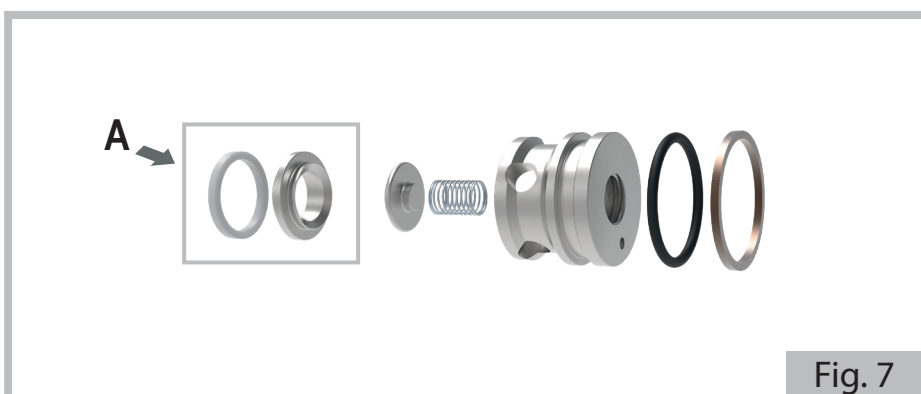

Fig. 7
- c) Manually remove also the valve seats and the corresponding sealing rings (details A figure 7)